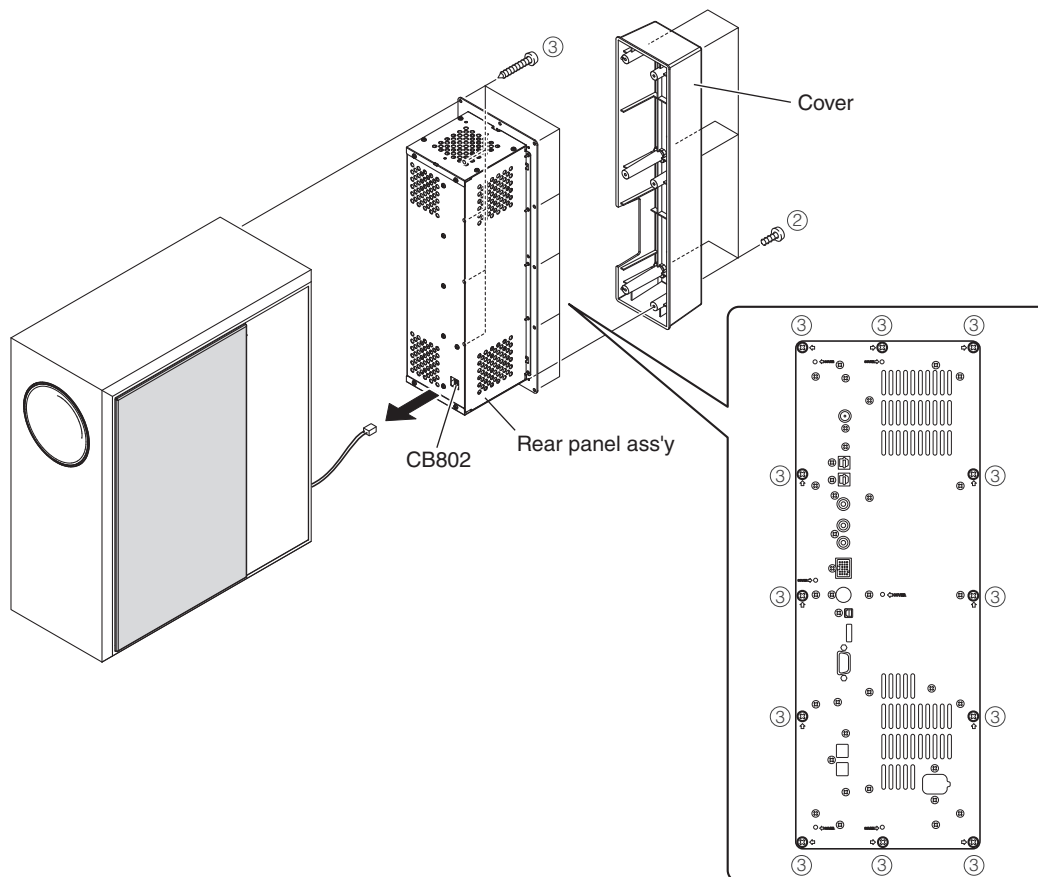

Fig. 3
- a. Remove 6 screws (②). (Fig. 3)
* Screws (②) are identified with arrow marks (COVER ⇨).
- b. Remove the cover. (Fig. 3)
- a. Remove 12 screws (③). (Fig. 3)
* Screws (③) are identified with arrow marks (⇨).
- b. Pull out the rear panel ass'y. (Fig. 3)
c. Remove CB802. (Fig. 3)
d. Remove the rear panel ass'y. (Fig. 3)